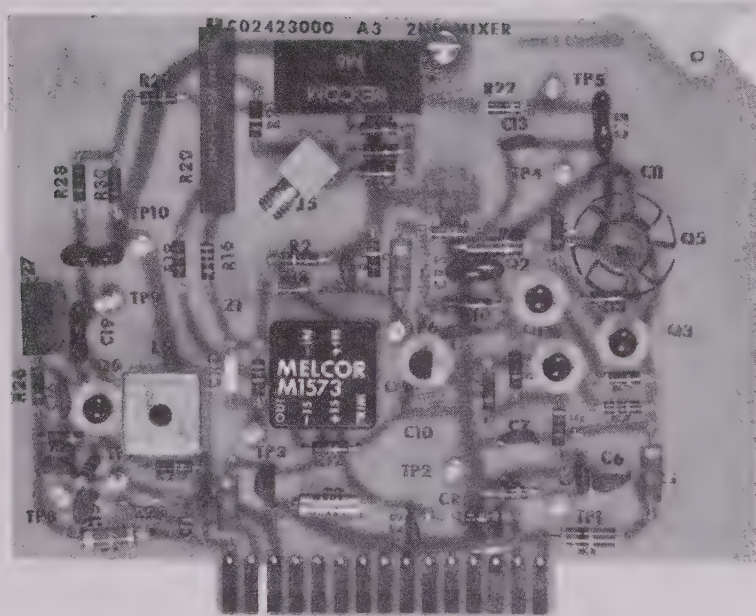

Figure 3-52. Second Mixer C02423000
c. **Second Mixer, Module A3.** (See Figure 3-52) Output from the first mixer, at 40.0-40.1 MHz, is applied to a tuned amplifier, Q6. A level control in the emitter circuit of Q6 adjusts the injection level to the second mixer. Output impedance and level is reduced by the capacitive divider, C19, C20, and isolation furnished by the resistor network R28-R30. Together these components match the impedance to the 50 ohms required to match the input of the encapsulated, balanced mixer, Z2.